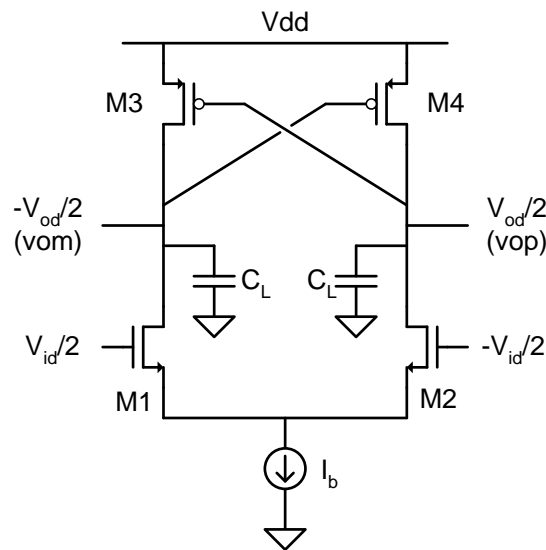
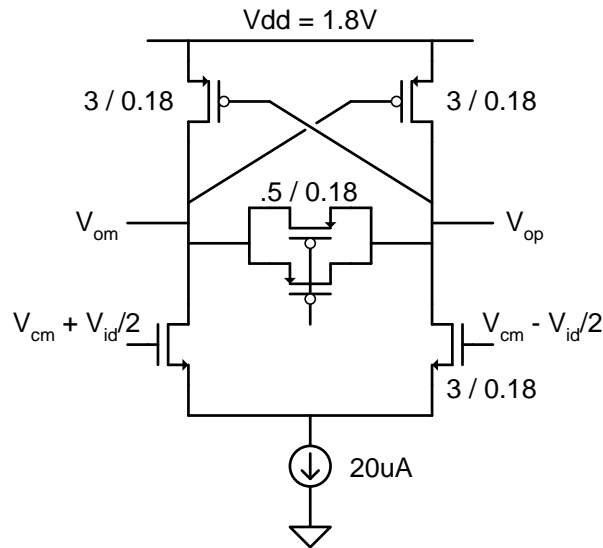

Figure 1
Figure 3
2. In this problem you will examine the behavior of a comparator latch which has a simplified model provided in Figure 1 (H.-S. Lee, et al., JSSC, Dec 1984). This model represents the beginning of the comparison phase, so the PMOS switch from vom to vop (see full circuit in Figure 3) is off and is excluded from this model.
- Now, you will run some Spectre simulations for the latch with the parameters given in Figure 3. The ratios are listed as W/L in microns. Assume that the n-wells for the PMOS transistors are tied to $V_{DD} = 1.8V$, while the NMOS bulks are tied to $V_{SS} = 0V$. First, perform a transient simulation with $V_{id} = 1mV$ and $V_{cm} = 0.9V$. Initially hold the STROBE low for 5ns and then measure the transition time after the STROBE goes high. The rise time for the STROBE is 0.2ns.